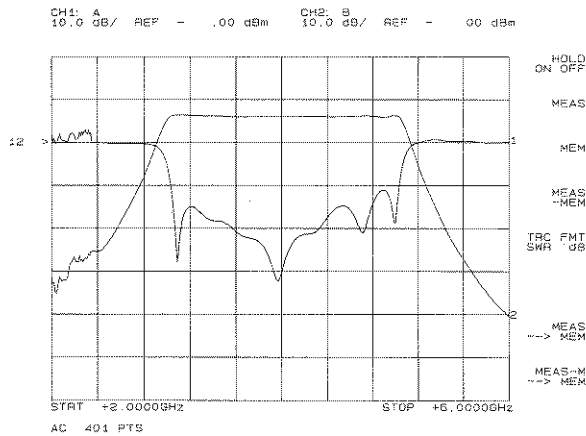

Figure 10. The Display Menu
The [DISPLAY] function key presents the display menu, which allows the operator to control the display mode for the active channel. This menu (shown in Figure 10) lets you display (1) the measurement ([MEAS]), (2) the trace memory of the active channel ([MEM]), or (3) the difference between these ([MEAS-MEM]). The [MEAS-MEM] display mode is ideal for displaying normalized measurements used in calibration (see [CAL]). [MEAS-M→MEM] stores the normalized trace in memory.